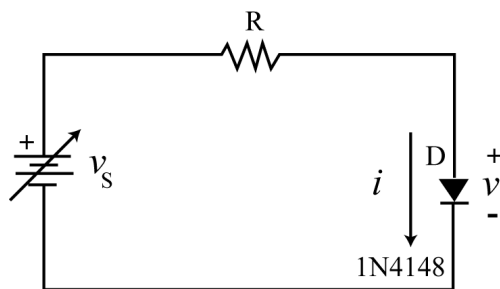
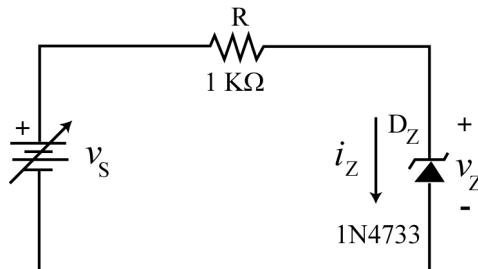

Fig. 3 - Circuit to find the diode characteristics.
Fig. 4 - Circuit to investigate a zener diode.
This characteristic shall be obtained by Here v_S is a variable DC source which, together with R , is used to establish prescribed values of i . To perform your i and v measurements, first configure your digital multimeter (DMM) as an *ammeter in series* between the resistance and the diode to set i , then as a *voltmeter in parallel* with the diode to measure v . In case your ammeter has been put out of service by abuse, you can still use your DMM to perform current measurements as follows: Before inserting R in the circuit, measure it with the ohmmeter; then insert R , and while monitoring with measuring v for different values of i using the circuit of Fig. 3. voltmeter the voltage v_R across the terminals of R , adjust v_S for the desired value of i (for instance, to obtain $i = 100 \mu\text{A}$ with $R = 98 \text{ k}\Omega$, adjust v_S until $v_R = R \times i = 98 \times 0.100 = 9.8 \text{ V}$).
M1: In the circuit of Fig. 3 measure v for the following values of i (shown within parentheses are the corresponding recommended values of R): $i = 10 \mu\text{A}$ ($1 \text{ M}\Omega$), $i = 100 \mu\text{A}$ ($100 \text{ k}\Omega$), $i = 1 \text{ mA}$ ($10 \text{ k}\Omega$), and $i = 10 \text{ mA}$ ($1 \text{ k}\Omega$). As you measure v , use as many digits as your DVM will allow (why?). Hence, plot your data on semilogarithmic paper (v on the linear scale, i on the log scale), with each datum shown as a rectangle with dimensions reflecting the uncertainties of the corresponding measurements, as learned in ENGR 300.
This characteristic shall be obtained by measuring v_Z for different values of i_Z using the circuit of Fig. 4. The suggestions given above in connection with the measurements of Fig. 3 still hold.
M4: In the circuit of Fig. 4 measure v_Z for two different values of i_Z , say $i_{Z1} = 5$ mA and $i_{Z2} = 10$ mA. Denoting the corresponding voltages as v_{Z1} and v_{Z2} , calculate the dynamic resistance of the diode as $r_Z = (v_{Z2} - v_{Z1}) / (i_{Z2} - i_{Z1})$. Hence, use Eq. (3) to find the extrapolated value V_{Z0} .